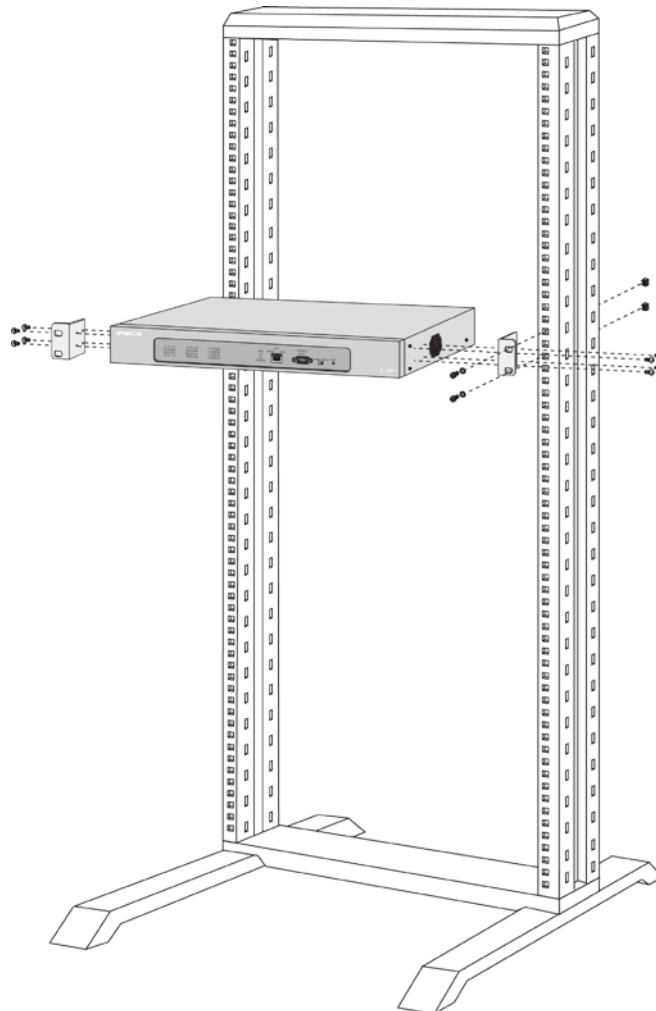

Figure 6.9-1 DTIM24 Rack Mounting Installation
1. Mount the left and right mounting brackets to the DTIM24 module using the eight (8) machine screws provided as shown in Figure 6.9-1.
2. Mount the Module with the four (4) machine screws, nuts and washers as shown in Figure 6.9-1.